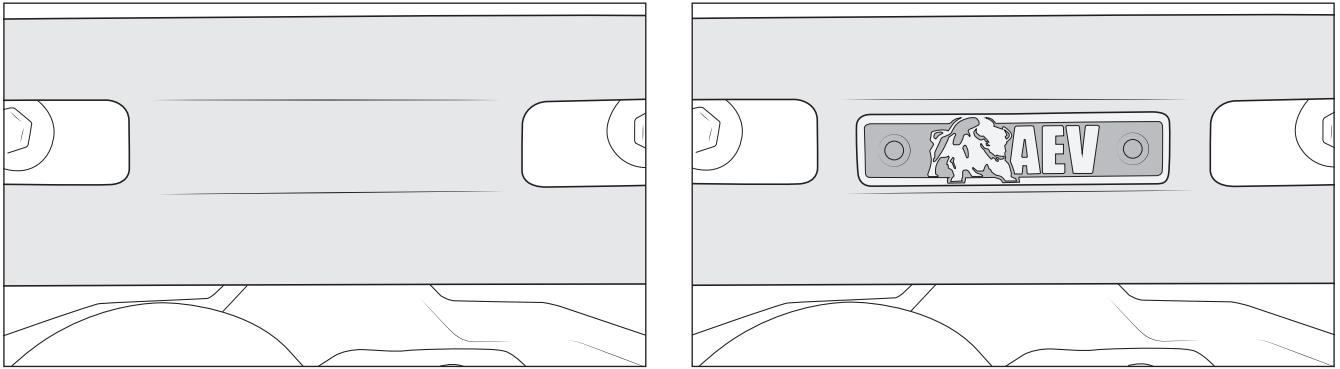

Figure 23
7. Use the supplied alcohol wipe to clean the badge recess on the center section (fig. 23). Install the adhesive backed AEV badge into the recess, holding with firm pressure for 30 seconds.